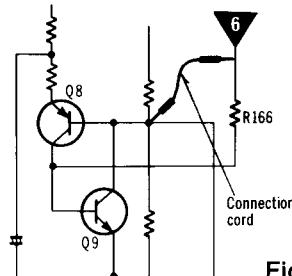

Fig. 17
<p>① Fluorescent meter</p> <p>Condition:</p> <ul style="list-style-type: none"> <li>* Record mode</li> <li>* Tape selector ..... Normal position</li> <li>* Input level controls ... MAX</li> </ul> <p>Equipment:</p> <ul style="list-style-type: none"> <li>* VTVM * AF oscillator</li> <li>* ATT</li> </ul>	<p>1. Test equipment connection is shown in fig. 16.</p> <p>2. As shown in fig. 17, connect the collector of Q8 and peak reset terminal.</p> <p>3. Supply 1kHz signal (-24 dB) to the LINE IN jack, then press the record button.</p> <p>4. Adjust the ATT so that the output level at LINE OUT jack becomes 0.45V (The input level at this condition is termed the standard input level).</p> <p>5. Adjustment at "-20 dB":</p> <ol style="list-style-type: none"> <li>A. Adjust the ATT so that input level is -20 dB below standard recording level.</li> <li>B. Adjust VR7 so that the -20 dB segment lights up in the <math>-20 \pm 1</math> dB range (L-CH ONLY) (See fig. 18).</li> </ol> <p>6. Adjustment at "0dB":</p> <ol style="list-style-type: none"> <li>A. Adjust the ATT so that the output level at LINE OUT jack becomes 0.45V. (The input level at this condition is termed the standard input level)</li> <li>B. Adjust VR8 so that the +1 dB segment lights up in the <math>0 \pm 0.2</math> dB range of the standard input level (See fig. 19).</li> </ol> <p>7. Repeat twice between steps 5 and 6 above.</p> <p>8. Adjust ATT and check that all segments light up when an input signal level is increased to 10 dB higher than the standard input level (See fig. 20).</p>